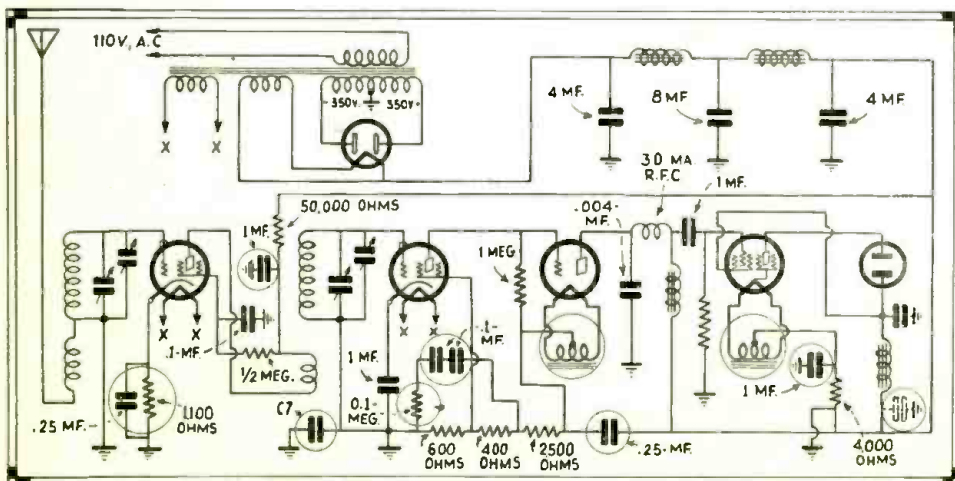

Fig. 1: New York Sun Prize Winning Television Receiver.
Q.—The New York Sun Second Prize Television Receiver would not work for me as shown in the diagram published in the March issue of TELEVISION NEWS. After making the changes shown by the circles on the attached diagram (Fig. 1) the set performed well, but gave negative images. Can you tell me the probable cause?
In the July-August issue of TELEVISION NEWS there is an article by H. F. Dalpayrat—Page 124, Fig. 1—I notice here a lens system which supposedly accomplishes this object.
The "core" is arranged to go both inside and outside the coil itself and the whole arrangement is included in a metal can for shielding purposes as shown in Fig. 1.